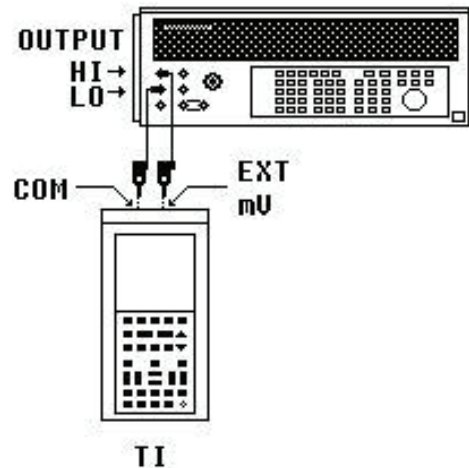

Figure 7. Meter EXT.mV.
- (1) Connect equipment as shown in figure 7 below:
- (2) Select reset by pressing pushbuttons sequence (a) through (c) below: